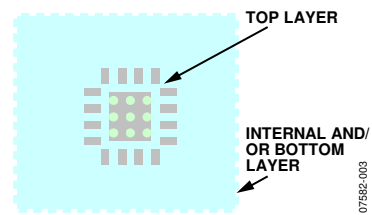

Figure 3. Heat Sink Layout
- Place nine vias onto the thermal pad of the amplifier. The outer diameter of the vias should be 0.5 mm and the inner diameter is 0.33 mm. If there are internal layers available in the PCB, allocate an area as large as possible as the ground planes and let these vias be connected to the planes (see Figure 3). If internal layers are available, allocate a certain area as a heat sink, and make sure to connect the vias conducting the heat to the internal layers.